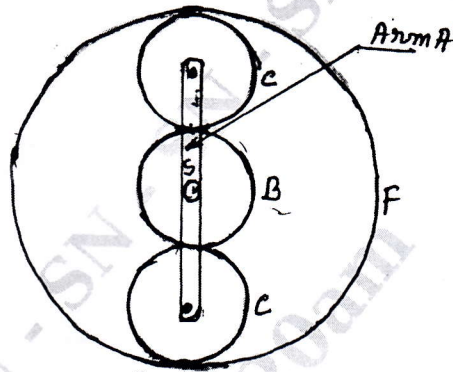

Fig Q6(b)
- b. In an epicyclic gear train shown in Fig Q6(b). The arm A is fixed to a shaft 'S'. The wheel B having 100 teeth rotates freely on this shaft 'S', wheel 'F' 150 teeth is separately driven. If arm 'A' runs at 200 rpm and wheel 'F' at 100 rpm in the same direction, find i) Number of teeth on gear C ii) speed and direction of wheel 'B'. Use Algebraic method.